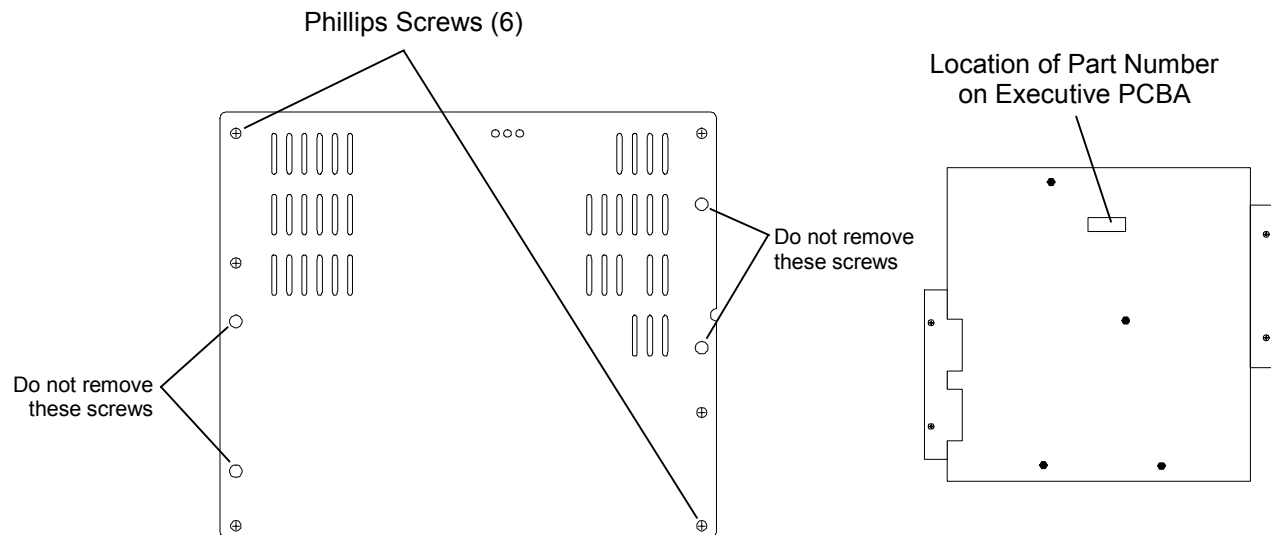

Figure 1 Rear Service Panel and PCBA Part Number Location
4. Remove the six Phillips screws securing the service panel on the rear of the library – refer to Figure 1 below. Care must be taken to not remove the four screws securing the heatsink panels.